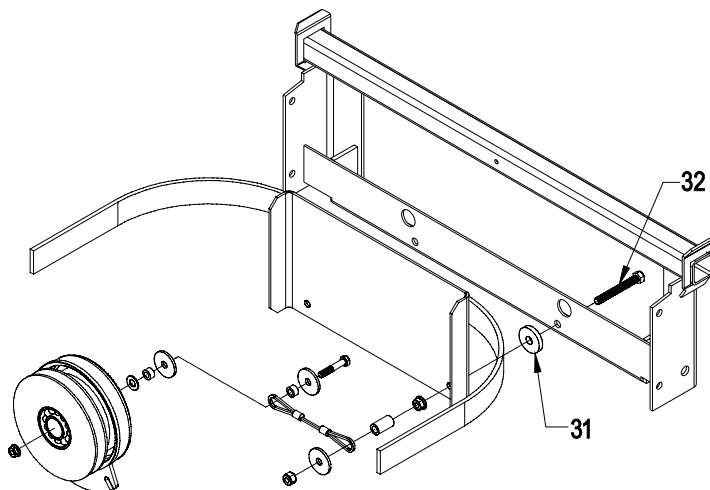
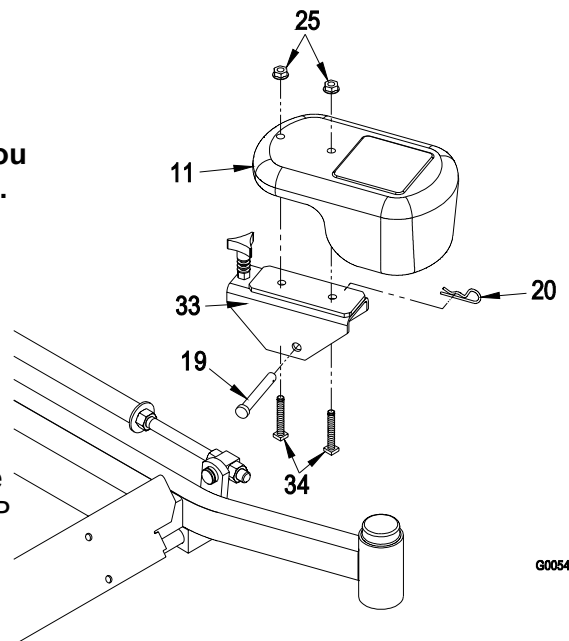

FIGURE 1
**FIGURE 5
Items 21,22, 29, 30, 31 and 32 not shown. See figure 1 for installation of 31 and 32. See figure 5 for installation of 29 and 30. See figure 8 for installation of 21 and 22.
For units with serial numbers 189,999 and below, install washers (Item 31) between the bagger mount weldment and clutch guard when installing the bagger mount weldment. This will provide for proper alignment of the mount holes with the holes in the hopper assembly. See figure 1.
For units with serial numbers 159,999 and below, remove the two tap bolts that tie the clutch straps to the rear engine guard and replace with new tap bolts (Item 32). These units also require the use of the washers (Item 31) between the bagger mount weldment and the rear engine guard. These parts should be installed when the bagger mount weldment is installed on the rear of the unit. See figure 1.
- 2.5.2 Locate the position of the mounting holes. Holes should be located by clamping a weight plate to the front of the floor pan (See Figure 5). The ears on the weight plate should be towards the bottom (upside down from the actual mounted position). Align the bottom edge of the weight plate with the bottom edge of the floor pan front panel. Center the weight plate side to side. On some machines hole positions are indicated by tool marks on the floor pan. Mark the position of all four holes using a center punch.